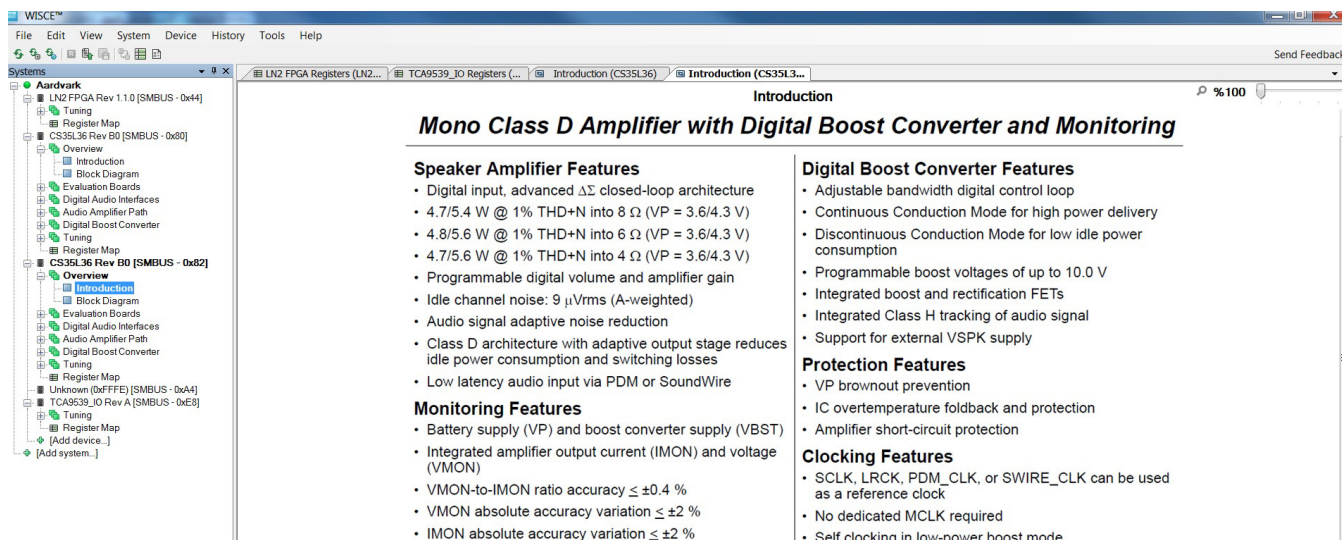

Figure 3-4. CS35L36 WISCE Initial Screen
5. After the devices are added, the initial WISCE screen for CS35L36 appears as part of the user panel, as shown in Fig. 3-4.